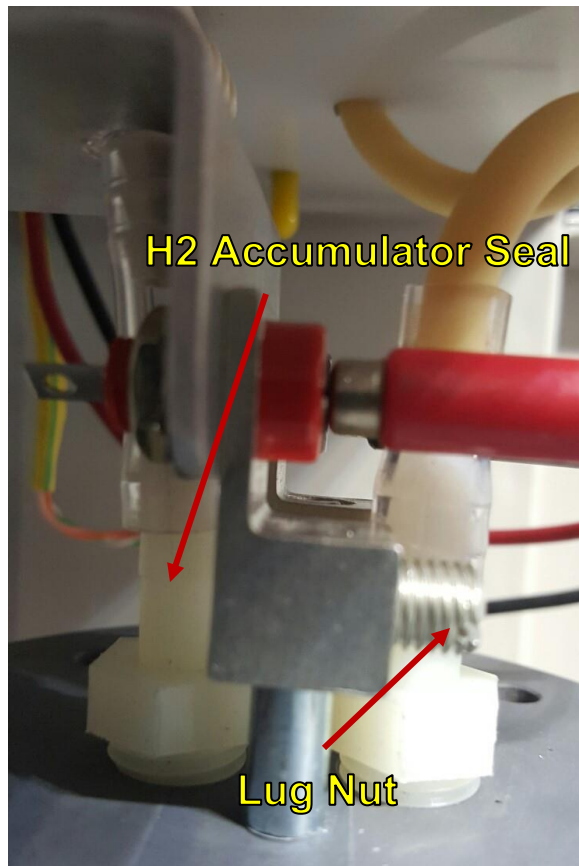

Figure 8: Side view of Auxiliary Electrolysis Canister Top
- 3.7 Push H2 Accumulator down while pushing Spare Auxiliary Electrolysis Canister up into Auxiliary Electrolysis Module Box and pull up until Cathode/Anode rods slide into slider joints (see Figure 8). Visually ensure tight seal with H2 Accumulator and clear plastic hose in back of Electrolysis Module